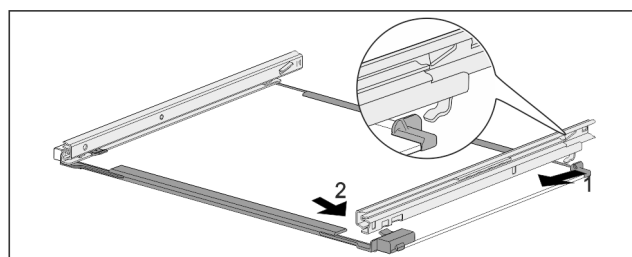

Fig. 108 Glass shelf with rails
- Hook in rail at the back. Fig. 108 (1)
- Hook in rail at the front. Fig. 108 (2)